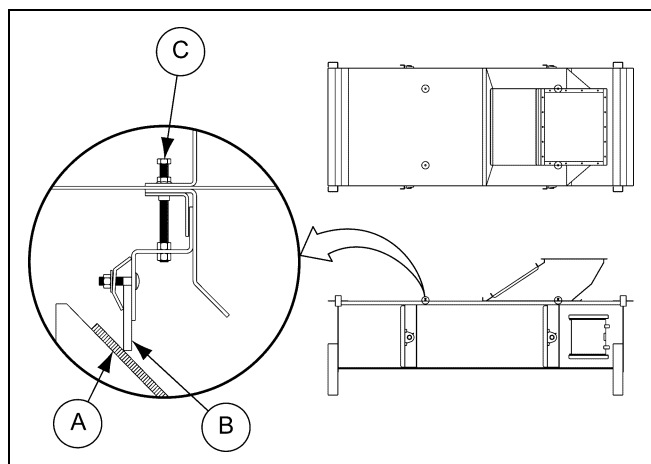
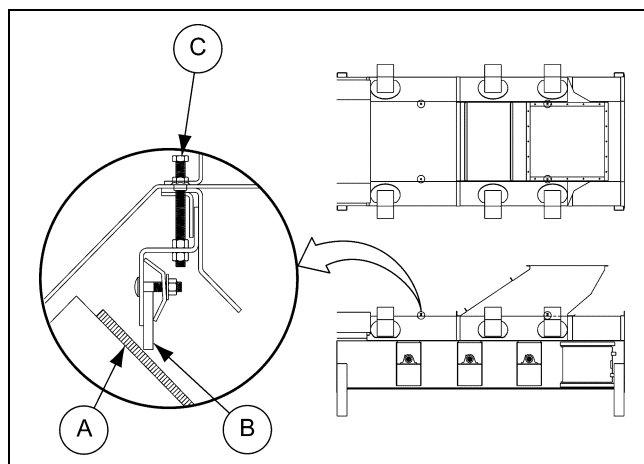

Figure 5A Roller Flo Loader Skirt Adjustment
Figure 5B 3i Roller Flo Loader Skirt Adjustment
8. Adjust the loader skirting (B) so that the rubber is barely above the belt (A). This is done with the four (4) bolts (two (2) each side) located on the cover part of the Loader section. \(See Figure 5A and Figure 5B.\)